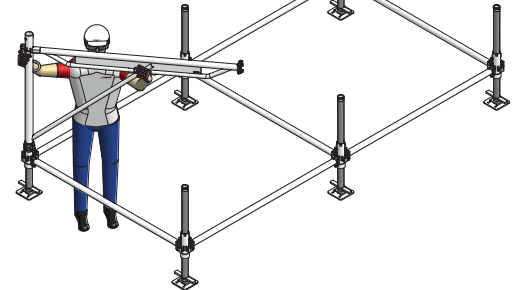

Fig. 15.2
Level 1 (Fig. 15.2)
7. Standing on the inside, plug the access frame 100 MT onto the base spindle at an angle of 45° and turn it outwards until it locks (Fig. 15.2).